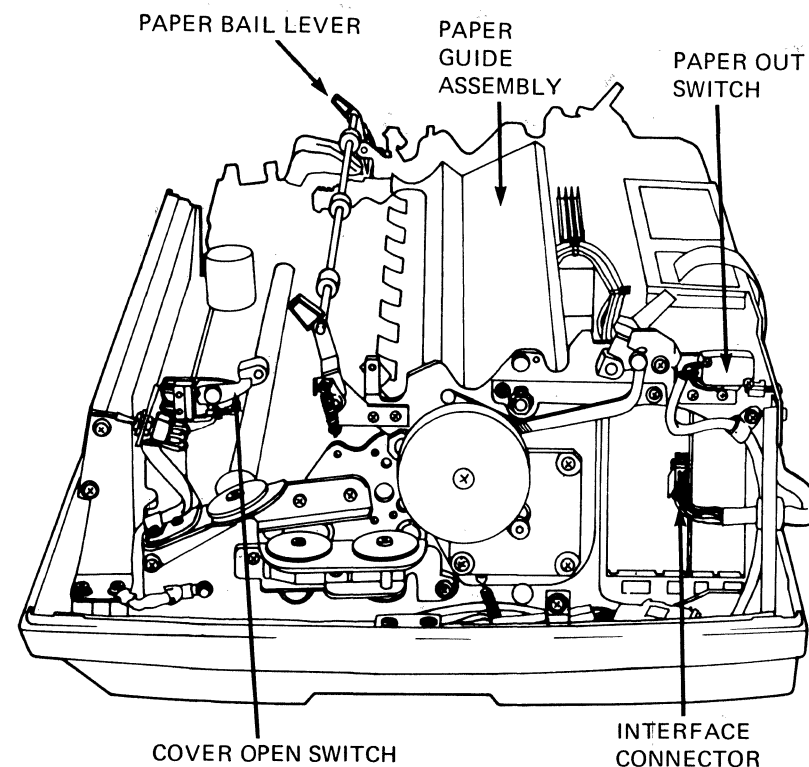

Figure 4-3 Spinwriter With Cover Removed - Side View
- e. Ensure that the paper out switch (see Section 5.13) and cover open switch (see Section 5.14) are adjusted properly (see Figure 4-3).